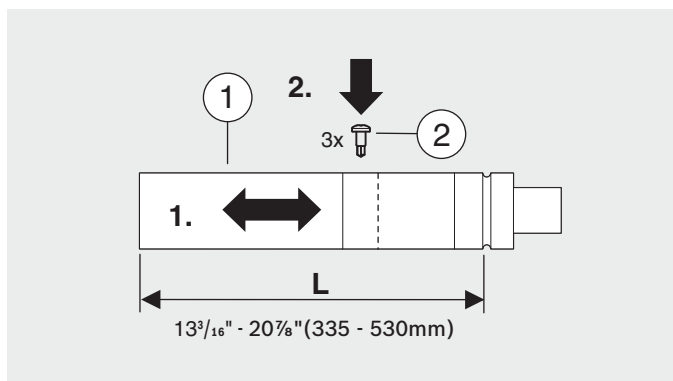

Fig. 7
- ▶ Extending the concentric pipe length beyond the telescoping termination (Fig. 7) is permissible. The maximum straight vent length allowed is dependant on appliance type and number of elbows used. See tables below.